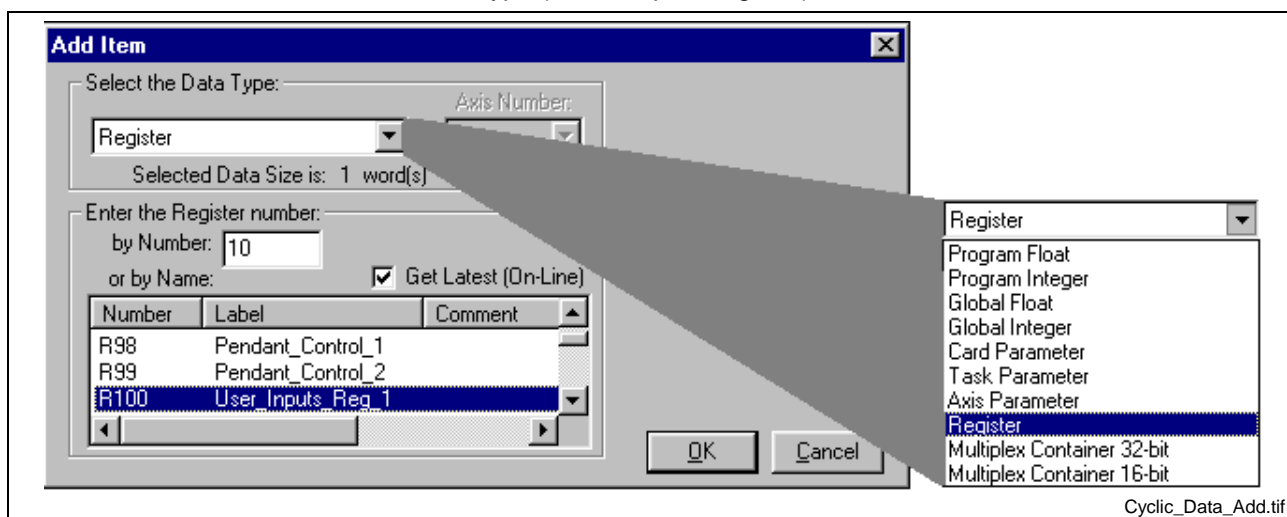

Fig. 6-12: Add Item to Cyclic Data
2. Click Add. The screen in *Fig. 6-12* below appears. Select the Data Type (for example, Register).